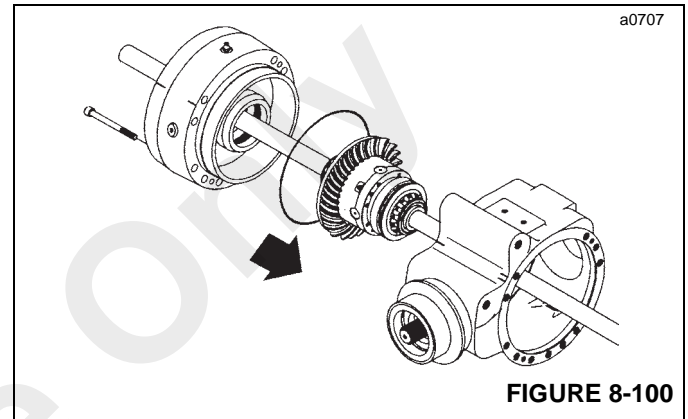

FIGURE 8-100
6. Install a new O-ring on the brake flange (Figure 8-100).